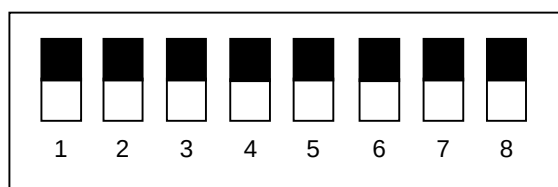

Figure 5.2.6 Standard DIP Switch Setting
As a result of the operations ① and ②, one of the CTL ASSYs is shut down. (If one of them has been already shut down before memory dump collection, the operations ① and ② are not necessary.) After checking that the ASSY has been shut down, set the DIP switch No.8 as shown in Figure 5.2.6.
⑤ Set the DIP switch No.2, as shown in Figure 5.2.6.